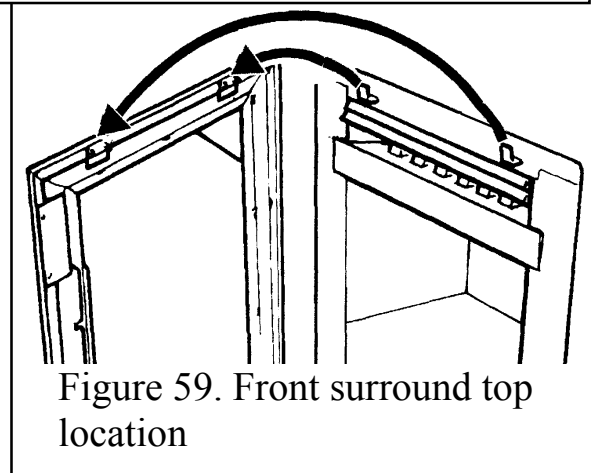

Figure 59. Front surround top location
4. **Make sure that the control linking bar has been detached (See 2 above).** Carefully lift the surround unit upward to clear the upper retaining brackets on the convection box - See figure 59. Pull the surround clear and place carefully aside.
2. Detach the slide unit by removing two screws securing the plastic slide mechanism to the rear of the front surround - See figure 59.